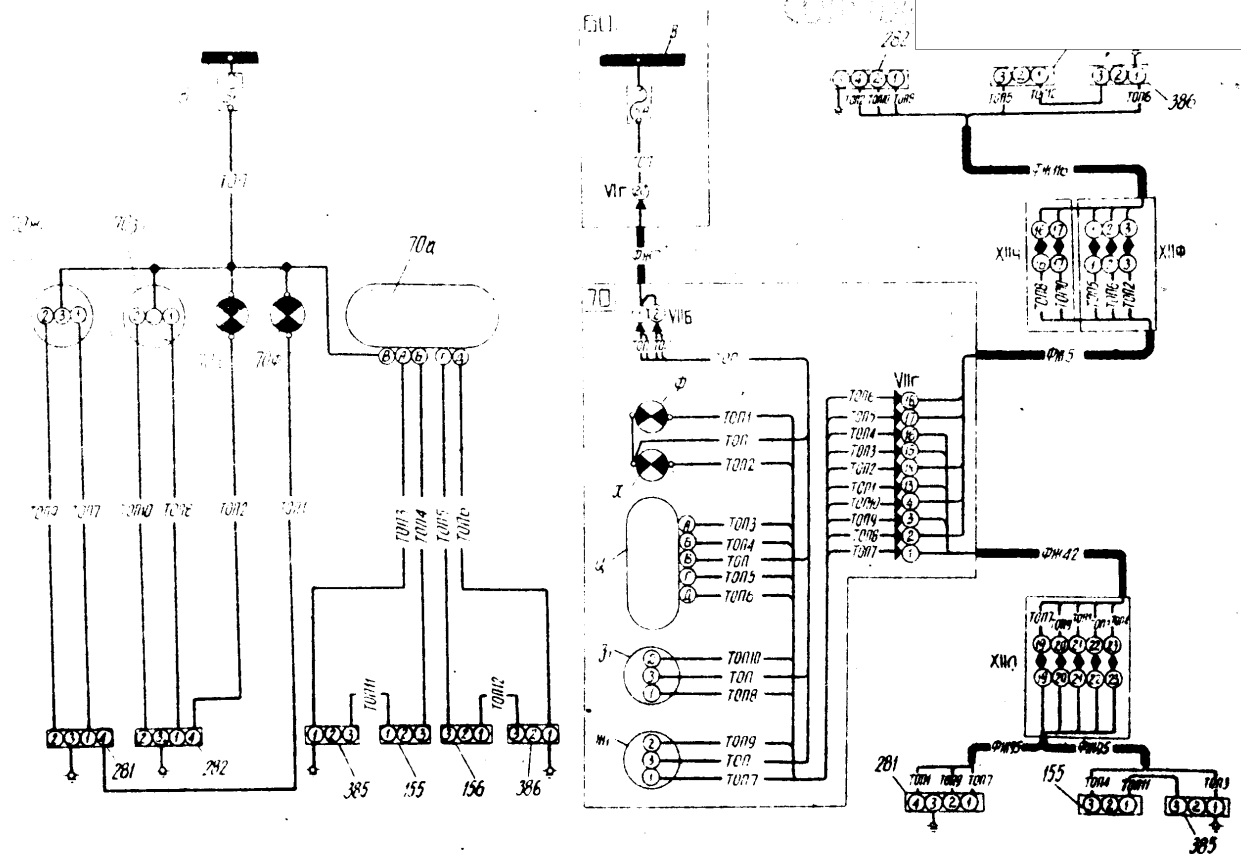

Fig. 105. Principal and assembly diagram of the fuel meters CT9C-1147.
- the auto-pilot /fig. 105 - 107/